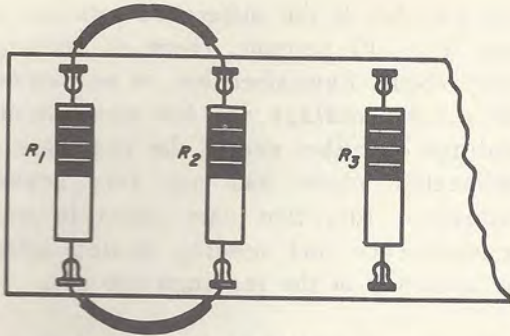

Fig. 8-15
Step 1. Disconnect from R_3 the lead that connects it to R_2 . Then connect the free end of this lead to R_1 , as shown in Fig. 8-15.